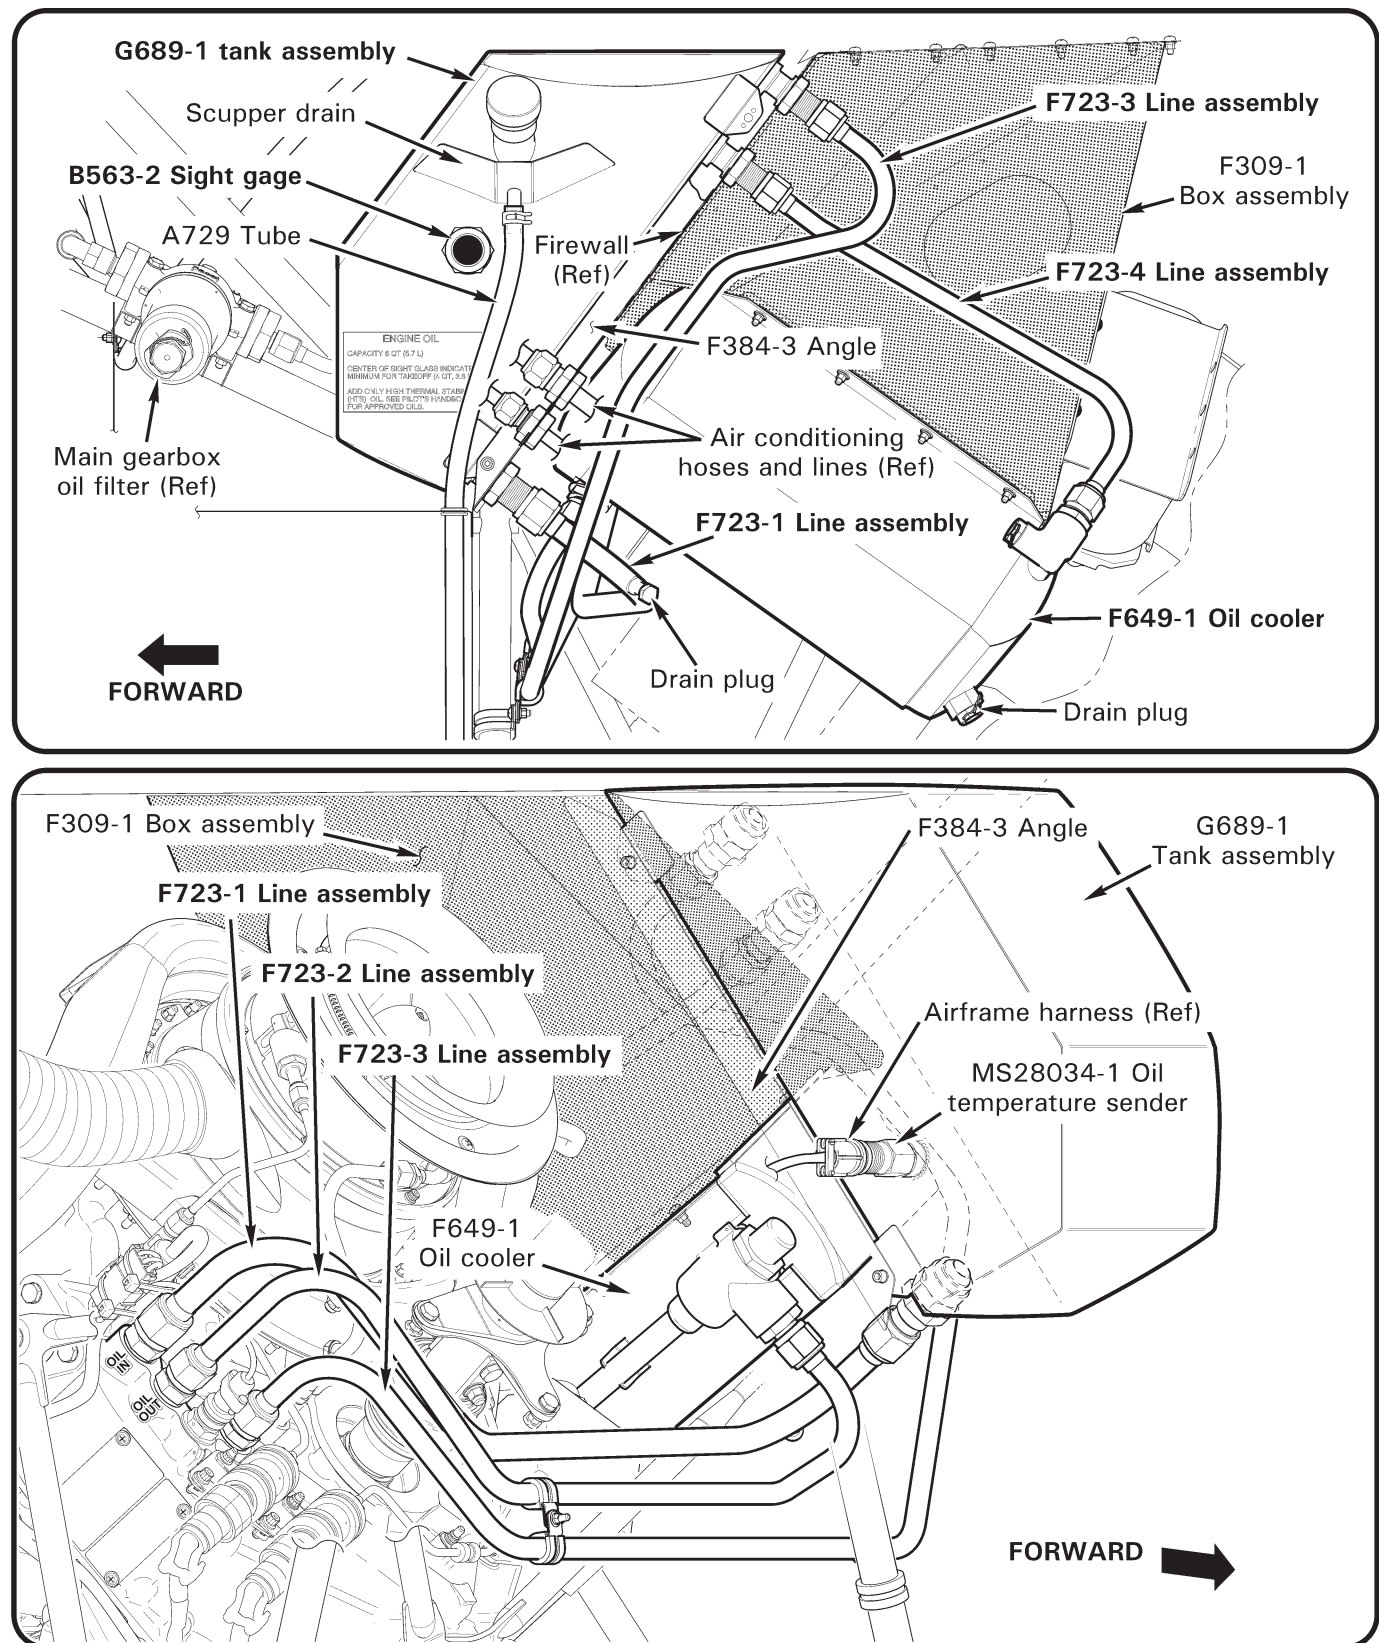

FIGURE 79-3 ENGINE OIL SYSTEM
4. Refer to Figure 79-3. Remove D277-8 clamp or cut and discard safety wire securing A729 tube to G689-1 tank assembly scupper drain. Pull tube off of drain.
2. Refer to Figure 79-3. Position G689-1 tank assembly in helicopter and install hardware securing tank to F384-3 angles. Verify security.
3. Refer to Figure 79-3. Disconnect airframe harness from MS28034-1 oil temperature sender.
1. Refer to Figure 79-3. Install (new) packing on MS28034-1 oil temperature sender. Remove tape, install sender in G689-1 tank, and special torque sender per § 20-33.
2. Refer to Figure 79-3. Remove B563-2 sight gage from G689-1 tank assembly. Discard o-ring; tape tank opening.
1. Refer to Figure 79-3. Remove tape and verify G689-1 tank assembly interior is free of contaminants.
2. Refer to Figure 79-3. Remove hardware securing F649-1 oil cooler to F309-1 box assembly.
1. Refer to Figure 79-3. Install hardware securing F649-1 oil cooler to F309-1 box assembly.
2. Refer to Figure 79-3. Remove hardware securing F723 line assembly clamps.
1. Refer to Figure 79-3. Torque check associated oil cooler and engine unions per § 20-33.